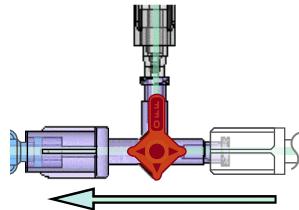

Figure 6 – Saline Flush (Savings OFF)
- a. If flushing with saline, turn DyeVert Power XT Stopcock OFF to the *Valve Selection Stopcock*. (See Figure 6)